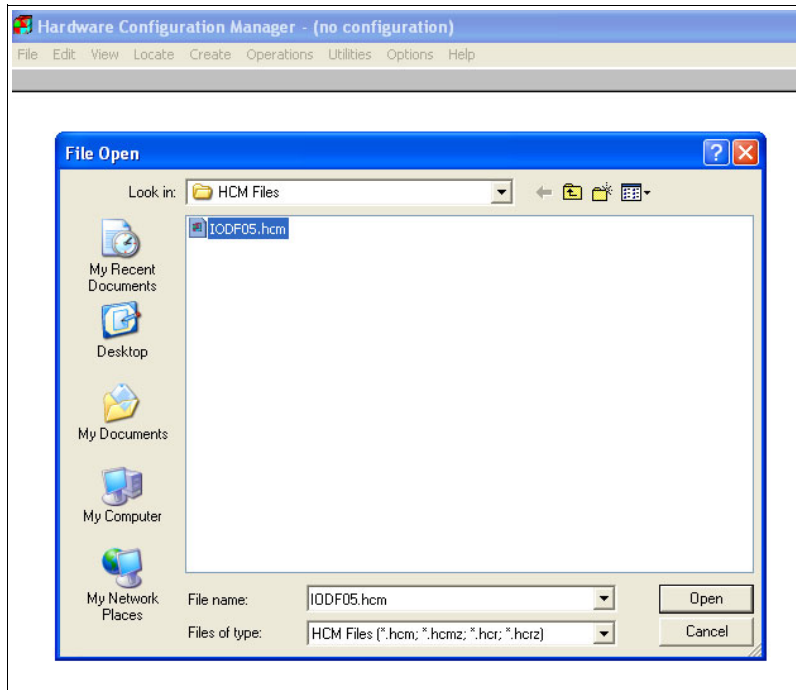

Figure 5-11 HCM File Open IODF05.hcm
1. Select the current work IODF using HCM. We are using SYS6.IODF05.WORK for our example. Refer to page Figure 5-11 on page 129.